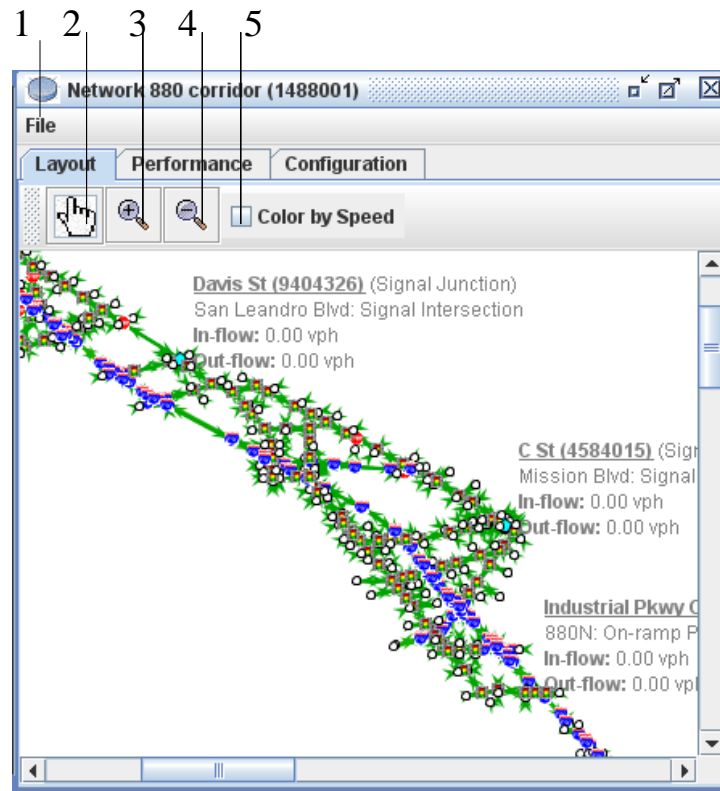

Figure 7-3: Network window – **Layout** tab.
Network window (Figure 7-3) has three tabs.
- **Layout** tab (Figure 7-3) displays the interactive network map. Placing the mouse cursor over a node or link makes a tooltip with information about that particular network element to appear.